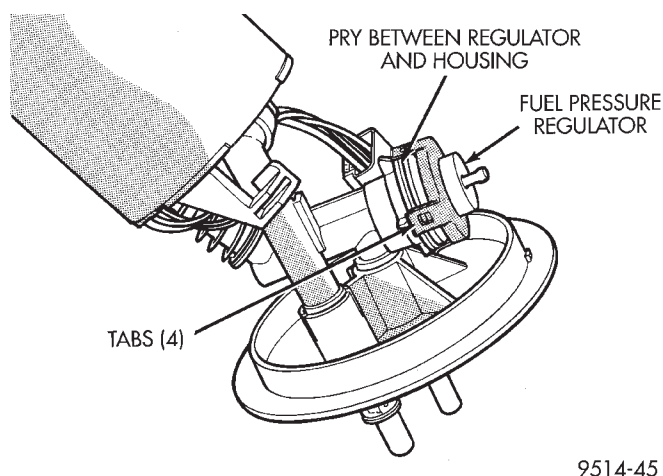

Fig. 18 Fuel Pressure Regulator
The fuel pressure regulator is part of the fuel pump module (Fig. 18). Remove the fuel pump module from the fuel tank to access the fuel pressure regulator.
(1) Spread tangs on pressure regulator retainer (Fig. 18).
(2) Pry fuel pressure regulator out of housing.
(3) Ensure both upper and lower O-rings were removed with regulator.